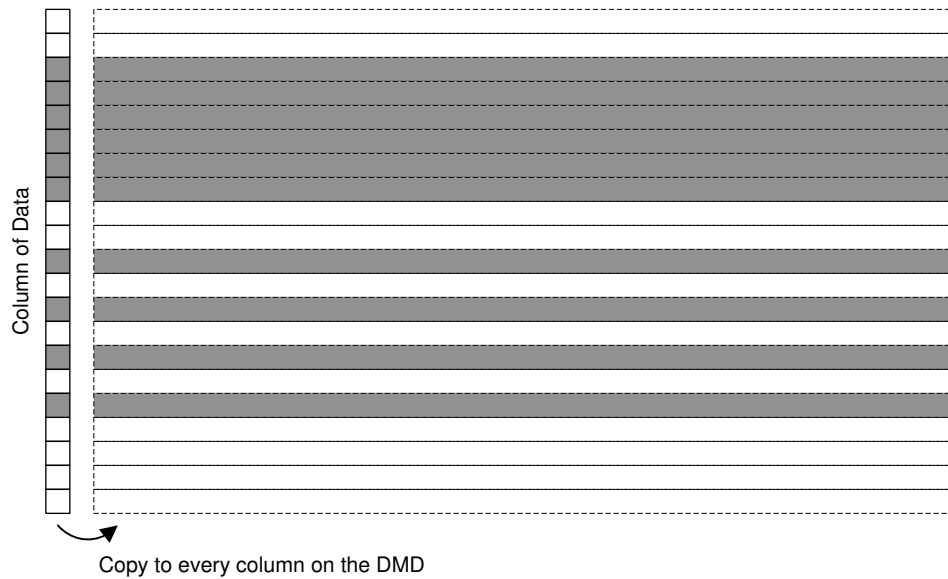
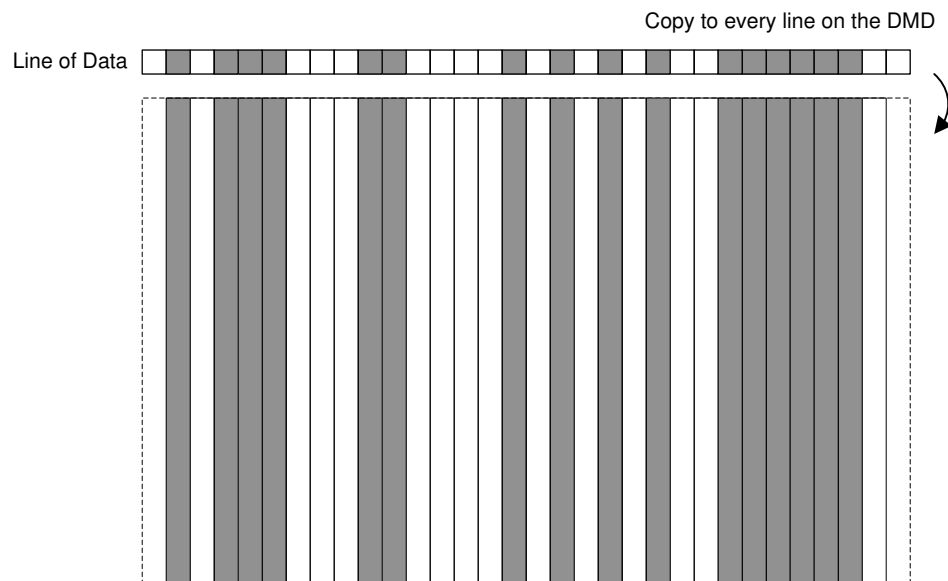

图 7-12. Column Replication
图 7-13. Row Replication
- Internal pattern mode only supports 1D patterns i.e the pattern data is same across the entire row or column of the DMD (图 7-12 and 图 7-13).